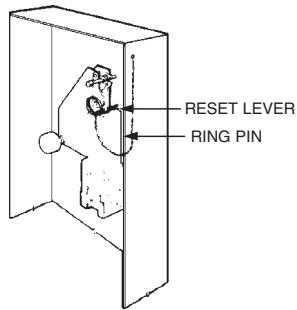

FIGURE 18
1. Insert ring pin in ANSUL AUTOMAN II-C release. See Figure 18.